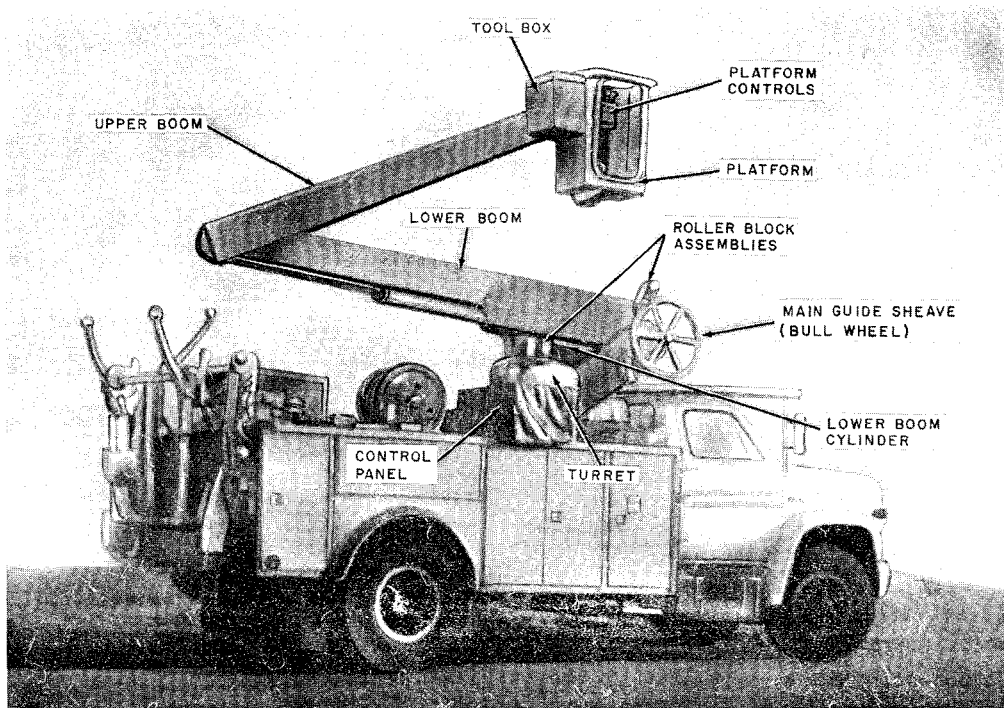

Fig. 1—Servo-Lift, Model S-31-MT, Aerial Lift
2.01 The Servi-Lift, Model S-31-MT, aerial lift (Fig. 1) is a truck-mounted unit with a heavy duty base and turret, an all metal lower boom and turret arm, a fiberglass upper boom, and a fiberglass platform. There are two releaseable hydraulic lock valves on each boom cylinder, a failsafe brake on rotation with release, and a provision for manual rotation. The unit is designed for continuous rotation and has a rotation slip-clutch to protect the boom in case of overload.
- (a) If the booms are in the positions shown in Fig. 1, turn out the adjusting screws as required on the inboard ends of the upper and lower booms to lower the booms in the manner covered in 5.01.